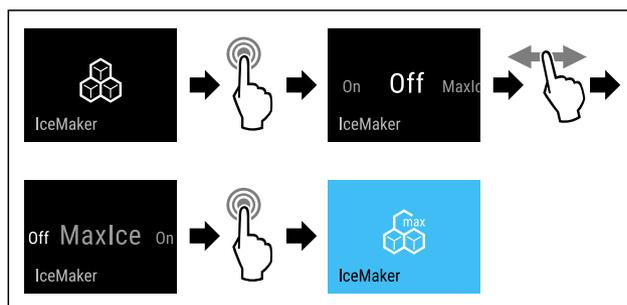

Fig. 20
- ▶ Complete the steps (see Fig. 20).